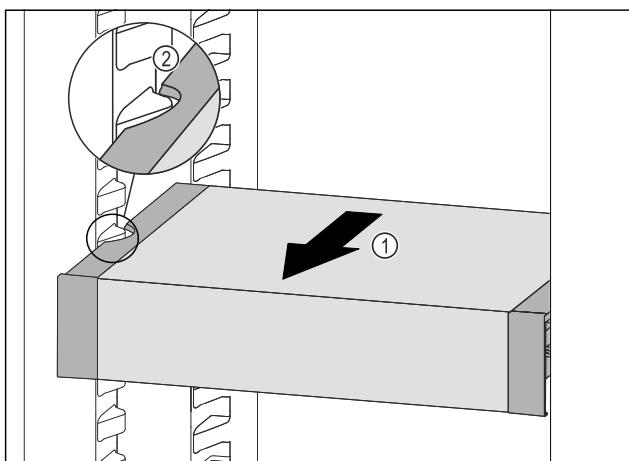

Fig. 97
- ▶ Pull VarioSafe forwards Fig. 97 (1) until the recesses in the side of the VarioSafe are at the level of the support rib in the fridge section. Fig. 97 (2)